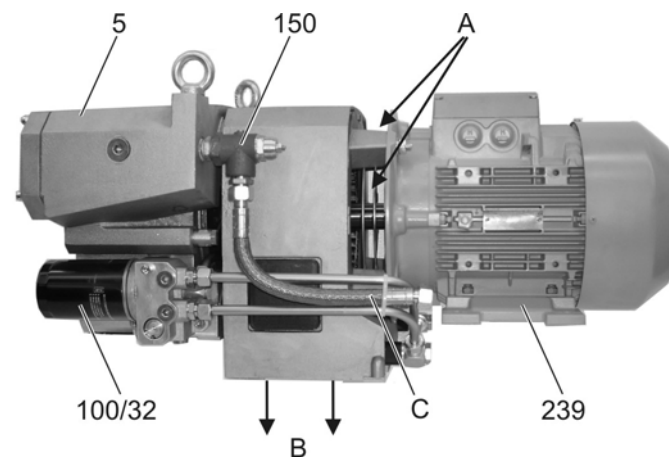

Fig. 7: Cooling air
4.3.3 Minimum pressure and non-return valve (Fig. 7:150)
4.3.4 Electric motor (Fig. 7: 239)